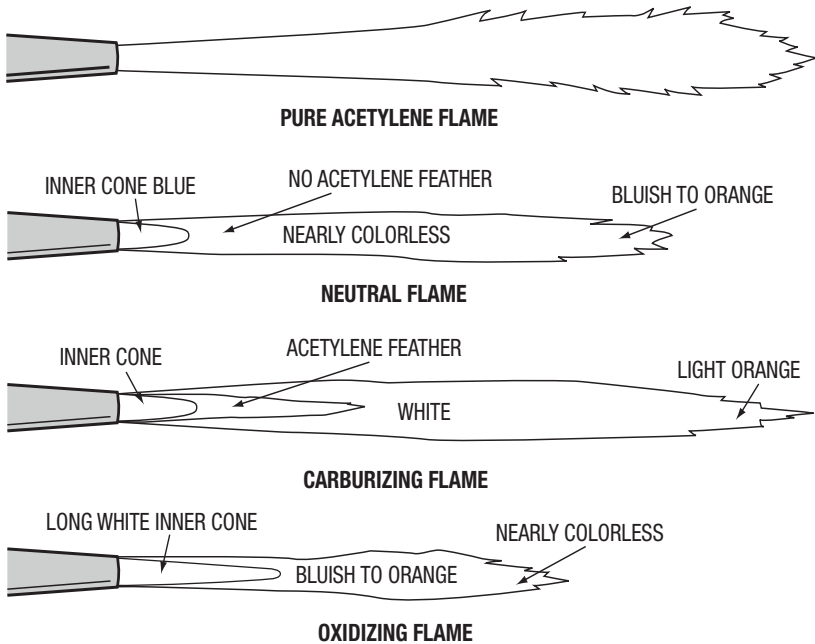

Figure 12: Acetylene Welding Flames
8. Open the torch oxygen valve until a bright neutral flame is established (see figure 12).